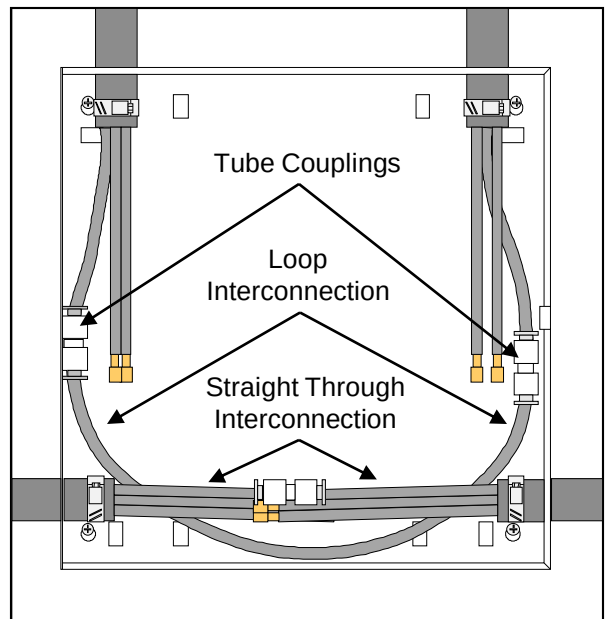

Figure 7
9.4.2 Use Tubing Cutter (BETC001) to cut tube ends at mark and install Tube Coupling. Be sure each tube is pushed all the way into its coupling and fully and firmly seated. **See Fig. 7.**
9.6.1 **Important Point.** If two tubes must be connected in a loop interconnection, do not couple them with one Tube Coupling. Locating Tube Couplings in tight bends / curves can cause the front end of a fiber bundle to hang up in the coupling during blowing operations. Always install Tube Couplings in straight sections of tubing. **Refer to Fig. 7.**